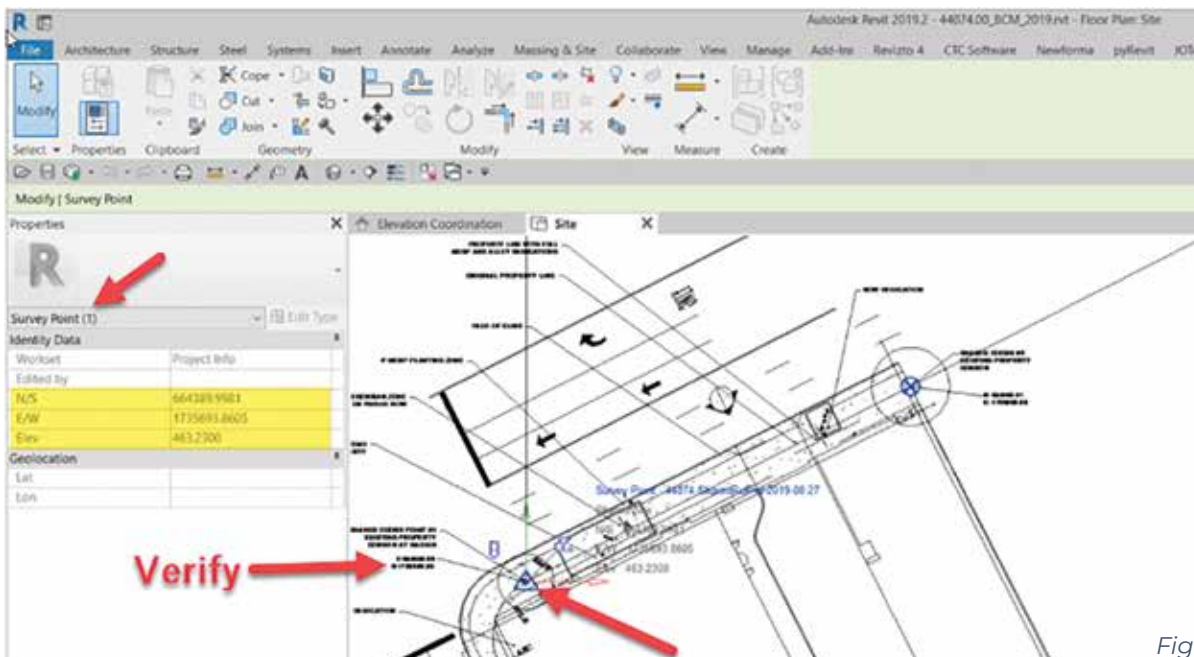

Figure 6
14. Switch to an elevation view and align the model level with the matching survey point elevation (Figure 6).